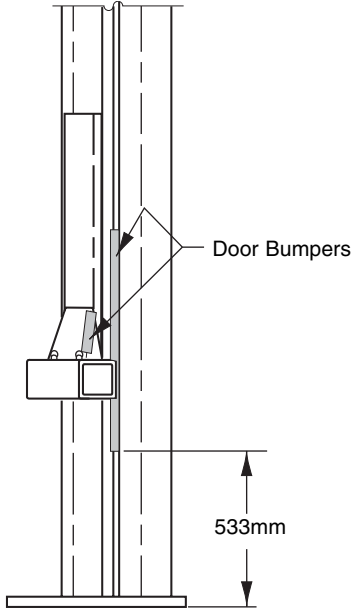

Fig. 22
- 1) Press bumpers on column edge and carriage, Fig. 22.